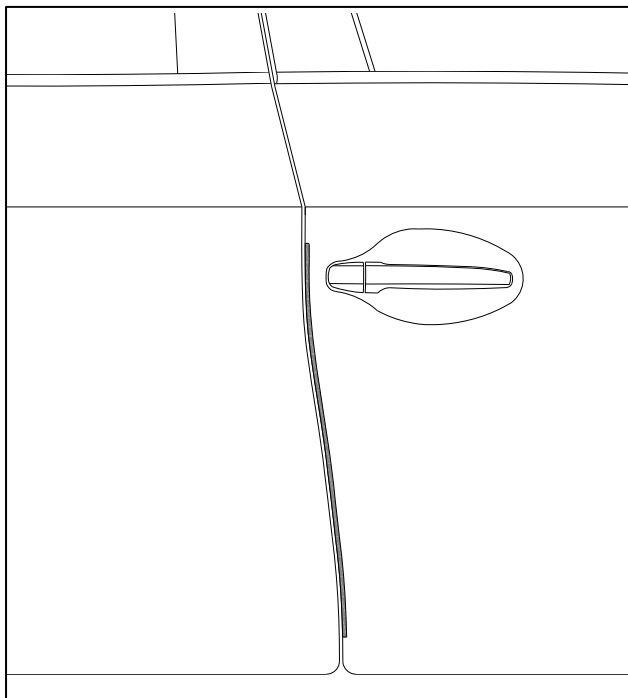

Fig. 1-13
- (q) Carefully close front door and ensure DEG has sufficient clearance from any adjoining body panel. Carefully remove template from door and retain for use on driver side. (Fig. 1-13)